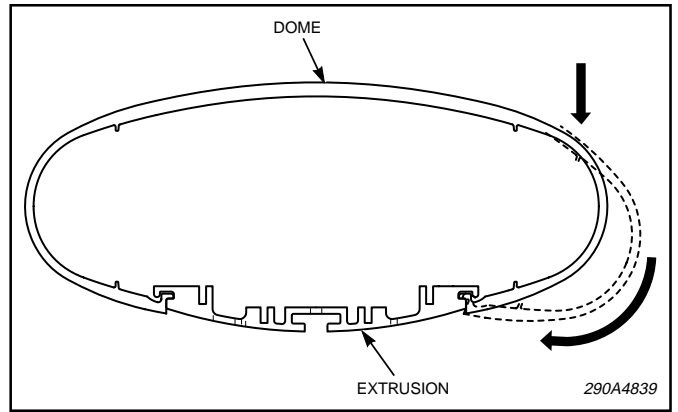

Figure 2.
3. Push down and rotate the center dome to allow it to disengage from the extrusion as shown in figure 2.